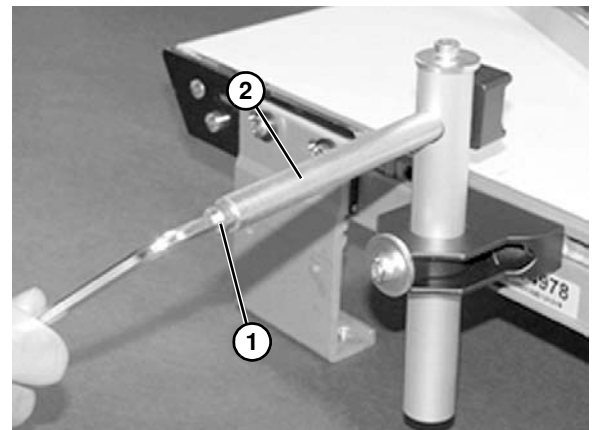
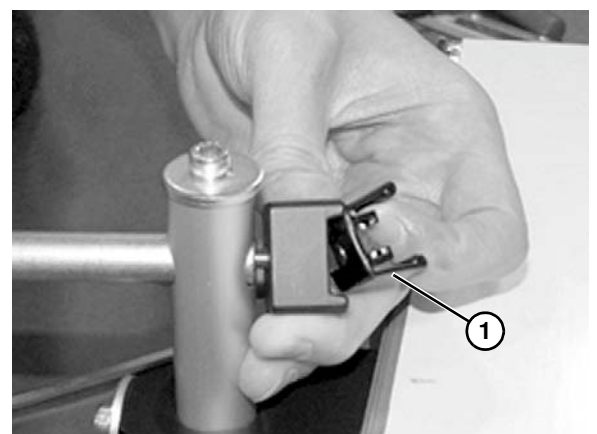
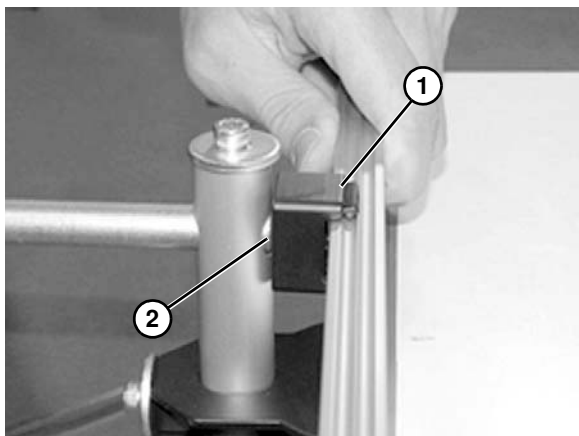

Figure 18
Figure 19
Figure 21
3. Loosen screw (**Figure 18, item 1**) on end of shaft (**Figure 18, item 2**) to remove clip (**Figure 19, item 1**).
5. Reassemble clip (**Figure 21, item 1**) and attach to shaft (**Figure 21, item 2**). Tighten screw (**Figure 18, item 1**) on end of shaft.